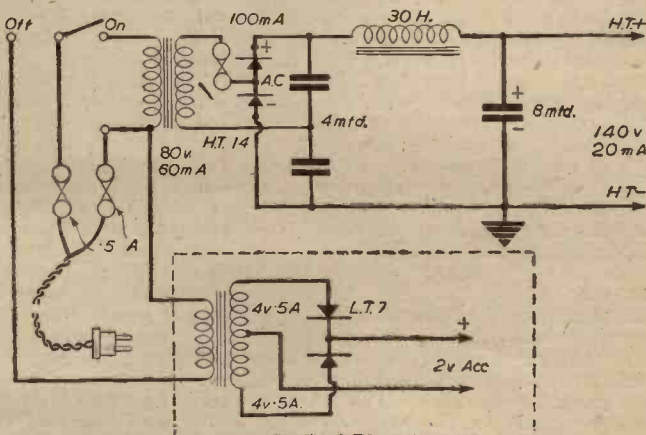

Fig. 2.—A combined H.T. eliminator and trickle charger for A.C. mains. If not required, the trickle-charger portion (enclosed by a broken line) may be omitted.
A.C. mains are more usual than D.C., but the necessary eliminator is slightly more complicated due to the fact that a mains transformer and rectifier are required to step down the mains supply and to convert the A.C. into D.C. Fig. 2 shows a convenient type of circuit where provision is also made for charging the accumulator from a separate transformer and rectifier. The H.T. mains transformer should, of course, be chosen to suit the rectifier to be used, and in Fig. 2 it is assumed that a Westinghouse type H.T. 14 metal rectifier is to be used connected in a voltage-doubler circuit. This provides a maximum output of 140 volts, 20 mA, and the necessary transformer has a secondary wound to provide 80 volts at 60 mA.
A very economical method of accumulator trickle charging is possible with A.C., since a transformer can be used to step down the mains voltage to that required to operate a 2-volt output metal rectifier. The L.T. transformer shown in Fig. 2 has a centre-tapped secondary, each half of which should give 4 volts at .5 amp. The output from the L.T.7 rectifier shown is 2 volts at .25 amp. The single-pole change-over Q.M.B. switch shown serves to switch on the H.T. unit (in the "on" position) or to bring the accumulator on charge (in the "off" position). If it is not required to charge the accumulator at any time when the receiver is out of use the two transformers can be disconnected by switching off the wall switch or removing the mains plug. As with a D.C. eliminator, switch the L.T. on before the H.T. and off after the H.T. It is not strictly necessary to disconnect the accumulator from the set while it is on charge, but some readers may prefer to do so since the voltage will be slightly in excess of normal while the accumulator is still on charge.